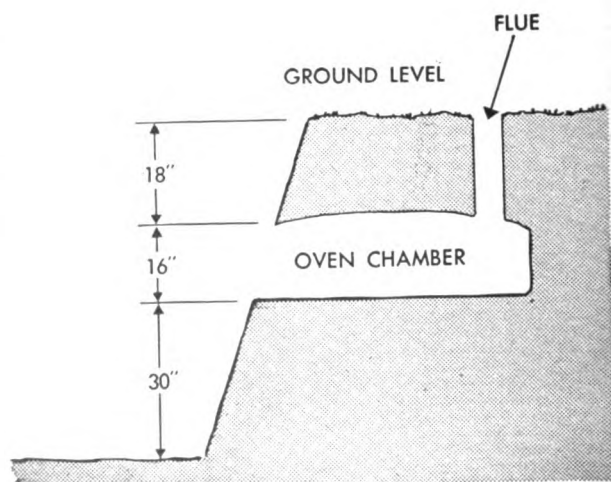

Figure 77. Cross section of simple type ditch oven.
c. There are two general classes of improvised ovens, those constructed in the manner of the M1942 oven, with both a firing chamber and a baking chamber (see fig. 76), and those consisting of a single baking chamber only (dutch oven). (See fig. 77.) In the latter type the fire is removed after the baking chamber is sufficiently heated to carry through the baking period.
a. A simple type of oven may be improvised by digging horizontally into a steep bank of earth 4 to 6 feet high. (See fig. 77.) The best tools for the purpose are a spade and a long-handled shovel.